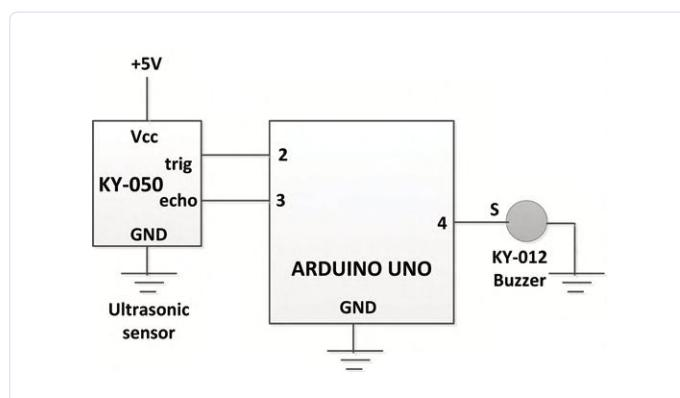

Figure 4: Circuit diagram of the project.
**Figure 3** shows the block diagram of the project (in 'embedded platform' style) and **Figure 4**, the connection diagram. The following pins are connected between KY-050, KY-012 and Arduino Uno: